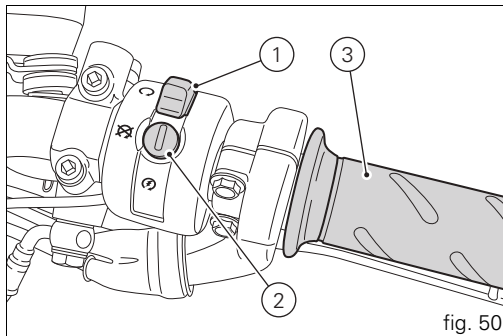
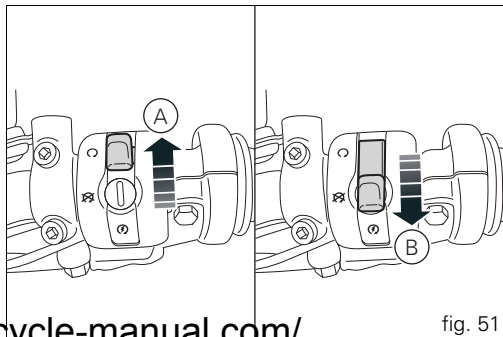

fig. 50
fig. 51
1) if the code is recognized, the immobilizer enables engine ignition. Press the START button (2, fig. 51), to start the engine;
RH switch (fig. 50 and fig. 51)
position " O " (RUN) = run (A, fig. 51);
position " X " (OFF) = stop (B, fig. 51).
This switch is mainly intended for use in emergency cases when you need to stop the engine quickly. After stopping the engine, take the switch back to the " O " position (A, fig. 51) to enable starting.
Throttle twistgrip (fig. 50)
The twistgrip (3, fig. 50) on the right handlebar opens the throttles. When released, it will spring back to the initial position (idling speed).